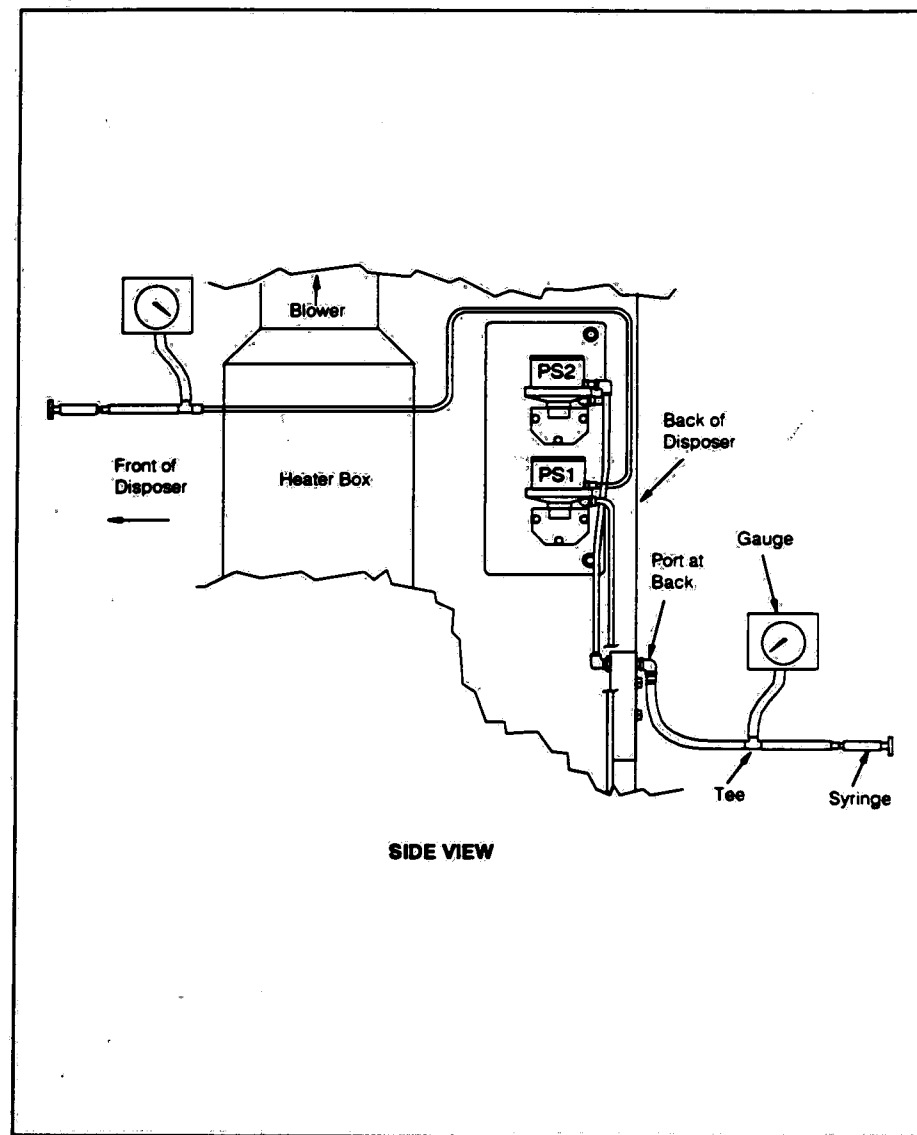

Figure 6-1. Disposer Pressure Switch Adjustment
- a. PS1 measures the differential pressure across the catalyst bed. In the event of a plugged catalytic bed this switch will activate. Disconnect the 1/4 inch tube at the 90° fitting located at the top side of the heater box (See Figure 6-1). With the tube disconnected, the switch will deactivate and the Low Air Flow light in the Disposer will come on. Slide the hose onto the 1/4 inch tube. Connect the gauge, tee, and syringe. Slowly inject air into the line and watch the pressure gauge. The switch should activate at 1.5 inches. When the switch activates, the Low Air Flow light in the Disposer will turn off. Reconnect the 1/4 inch tube when completed.